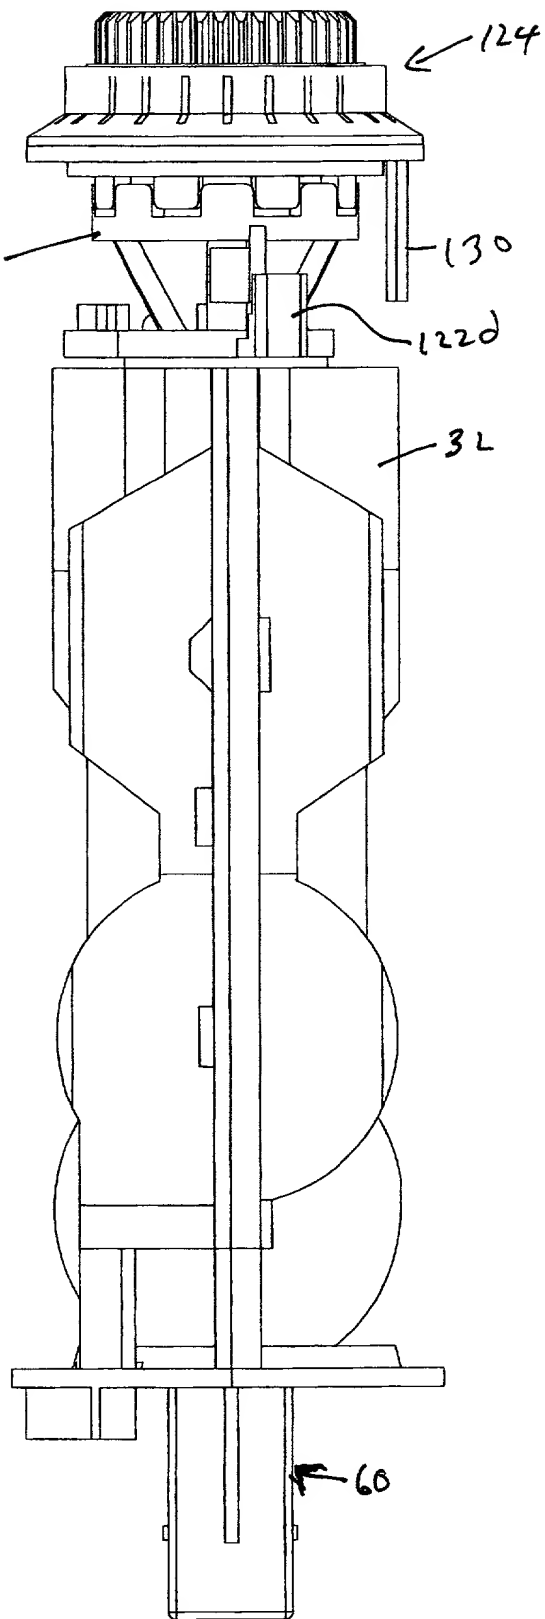

Fig. 75
FIG. 75 is a side cross-sectional view of a mechanical assembly. The assembly includes a central shaft (32) passing through a housing (60). At the top, there is a gear (124) mounted on the shaft. Below the gear, there is a component (106) that appears to be a valve or a piston. The shaft is supported by bearings (1220) within the housing. The housing has a flange (130) at the top. The bottom of the shaft is also supported by a bearing (60). The shaft has a series of steps or changes in diameter along its length.